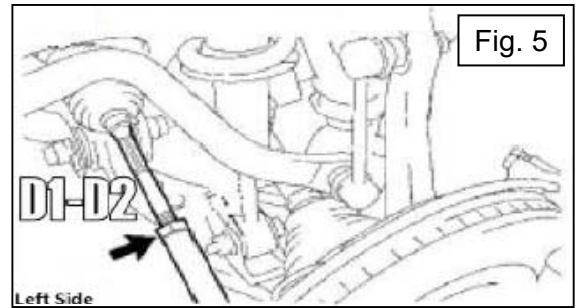

Fig. 5
7. Verify Torque of driver side and passenger side tie rod end locking nuts. (Fig. 5) Items D1 and D2 on SET19B Torque Form.